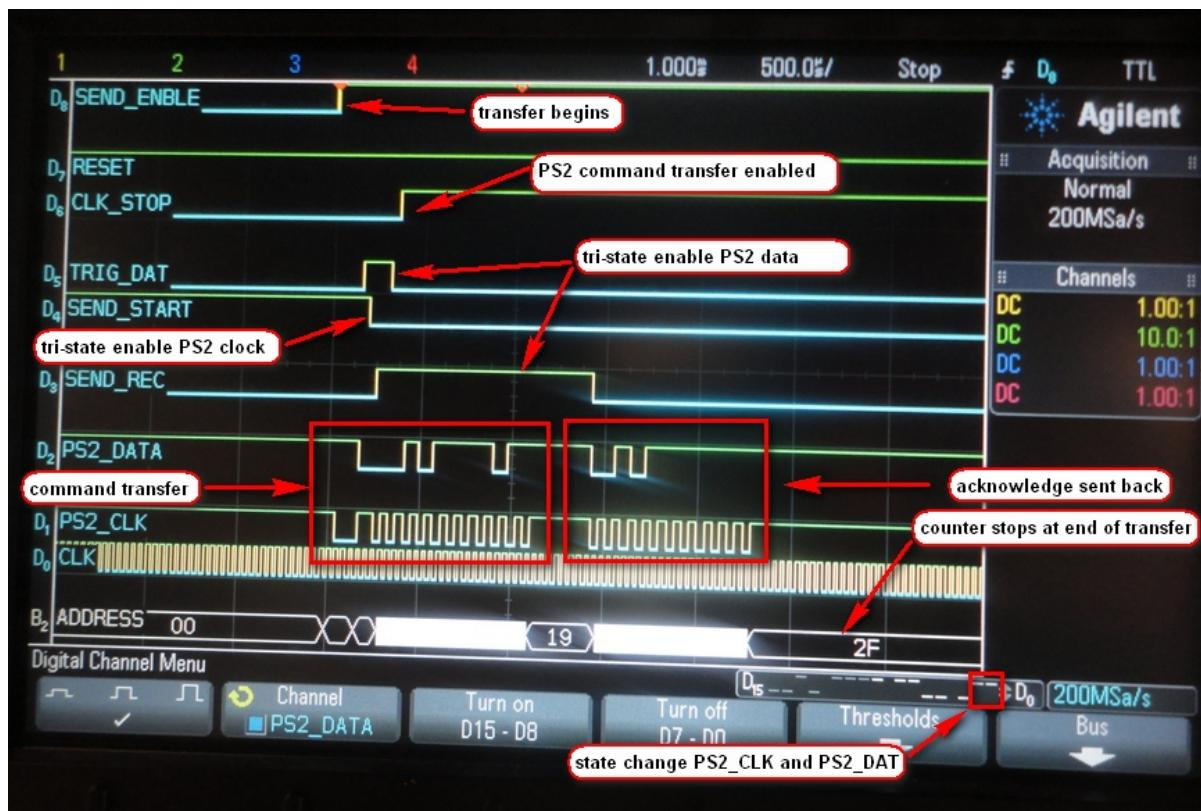

Figure 84 - Trigger command for the enabling of streaming data mode
- Move the mouse. Notice that neither the **PS2_CLK** nor the **PS2_DATA** state values change on the scope. Look at the bottom right of **Figure 84**. This shows that the mouse is still reset.
The result should look similar to **Figure 84**.